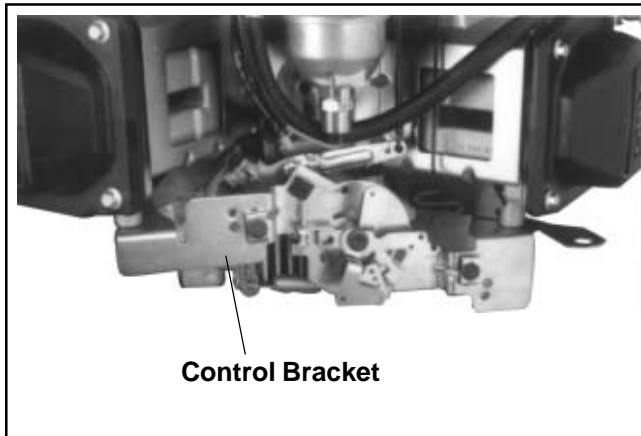

Figure 9-14. Removing Control Bracket.
1. Remove the four hex. flange screws securing the throttle control bracket and lower air cleaner bracket (some models), to the cylinder heads. See Figures 9-14 and 9-15.